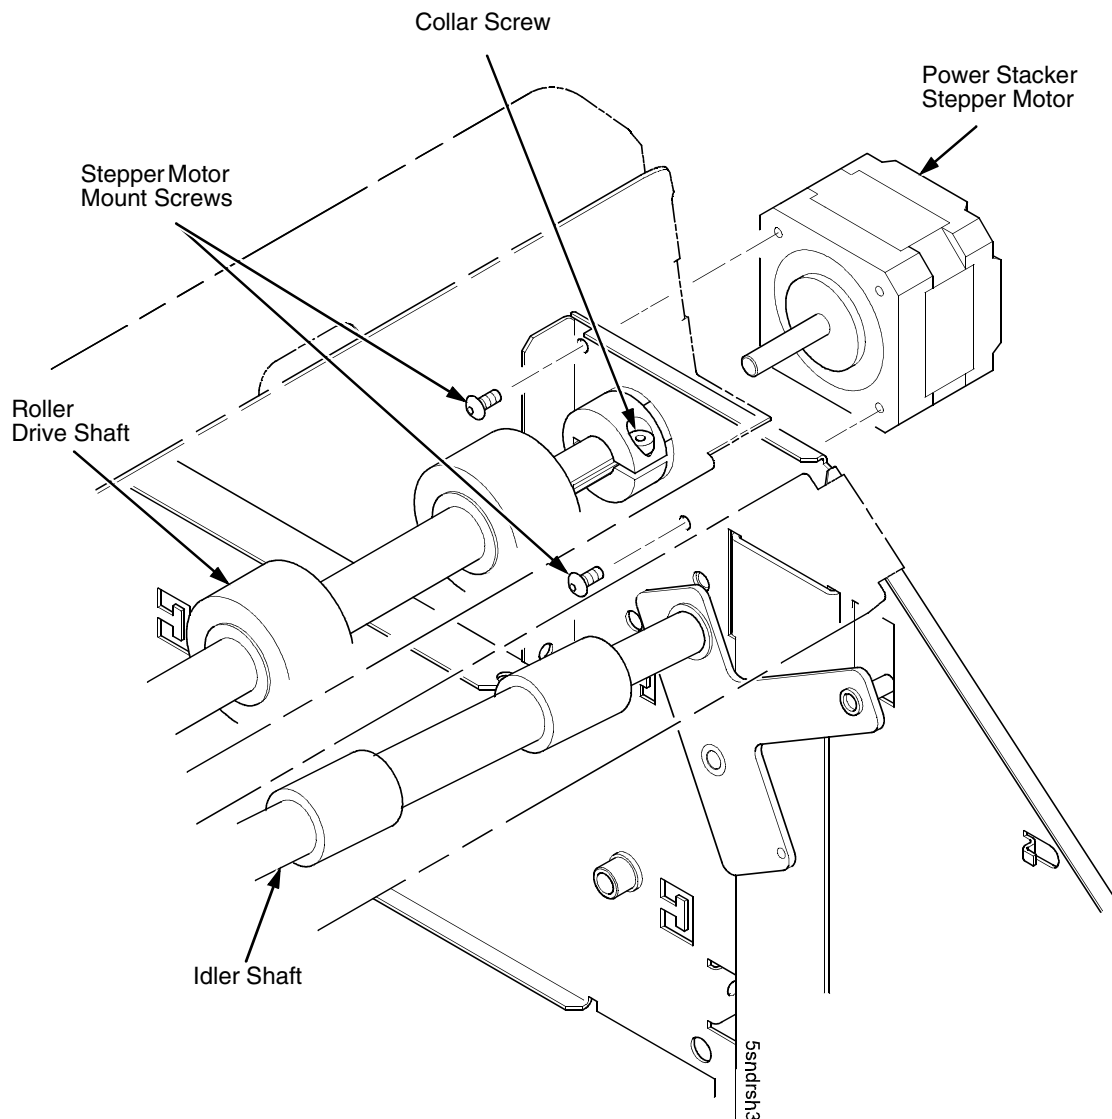

Figure 101. Power Stacker Stepper Motor
4. Move the idler shaft enough to expose the lower mount screw of the power stacker stepper motor. (Figure 101.)
6. Using an M-2 Allen wrench, remove the two screws securing the power stacker stepper motor to the elevator. (Figure 101.)
7. Using a 9/64 inch Allen wrench, loosen (do not remove) the collar screw securing the collar to the roller drive shaft. (Figure 101.)